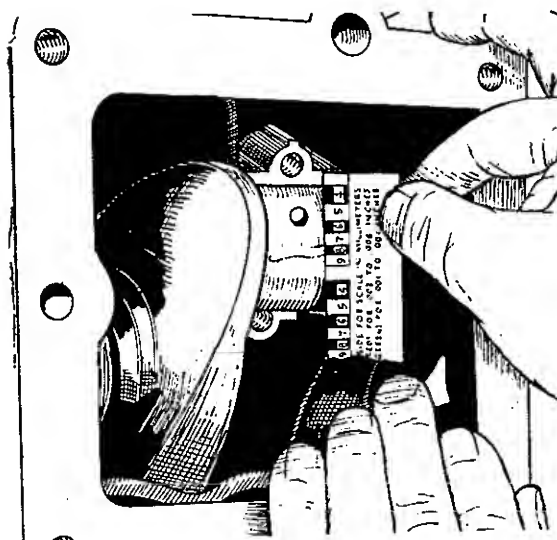

FIGURE 16-5. MEASURING BEARING CLEARANCE WITH PLASTIGAUGE
- b. Place a piece of correct size Plastigauge in the bearing cap the full width of the bearing insert about 1/4 inch off center (Figure 16-5).